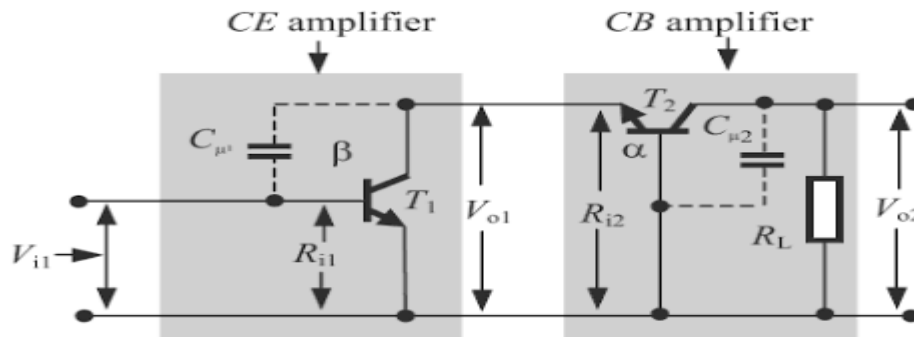

Fig. 4.37 Cascode amplifier using BJT's
Figure 4.37 show the cascode-amplifier configuration using BJT's. In this case, a common-emitter amplifier drives a common-base amplifier. It is a well-known fact that, at higher frequencies, the gain of the RC-coupled amplifier drops. This is because of the shunting effect of the Miller capacitance C_{μ} and the emitter-base capacitance C_{π} . With cascode connection, the effect of the Miller capacitance can be seen to get reduced; as a result, the high-frequency cut off gets extended by a factor of about 10.
Figure 4.37 shows the basic cascode amplifier circuit. As shown in the figure, and as stated above, a cascode amplifier consists of a CE amplifier driving a CB amplifier. To make a simplified analysis of the cascode amplifier, assume that the current gain (CE) of transistor T_1 is β and that (CB) of transistor T_2 is α . From basic principles, we find that for the CE stage.
where A_{V2} = voltage gain, R_{i2} = input impedance and R_{o2} = output impedance of the *CE* stage. From Fig. 4.37, we find that $R_{o2} = R_L$. Using Eqs. (1) and (2), we get the overall gain of the cascode amplifier as
But, we see from Fig. 4.37 that $R_{i2} = R_{o1}$. Also, we have $\alpha_2 = 1$. Then, we get
Even though the cascode amplifier has a gain equal to that of a *CE* amplifier, we find that its high-frequency region of operation extends beyond that of the *CE* amplifier. This is because, as stated before, the parasitic Miller capacitances ($C_{\mu1}$ and $C_{\mu2}$) of the two transistors are not directly connected, as can be seen from Fig. 4.37. This prevents direct feedback connection between the output and the input of the cascode amplifier.